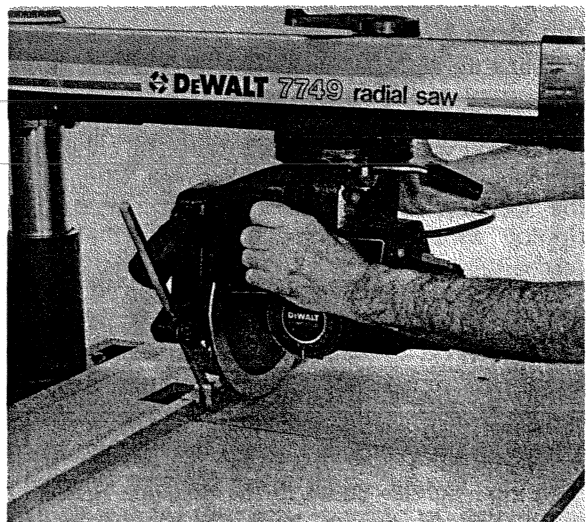

FIGURE 3
- (f) Once the 1/4 turn cut is complete lock the yoke lock with your right hand and with the blade still revolving push the yoke back on the track until the blade reaches the fence. This will cut the rip trough in the center of the table. **Stop Motor.** (Refer to fig. 3)